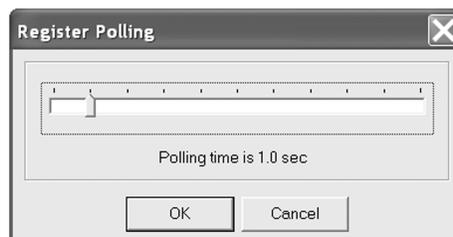

Figure 8. Register Polling Setting In The GUI
- Click menu Settings, select 'Register Polling', set 'polling time' to be non zero, as shown in Figure 8, then all registers are read in once every 'polling time'.